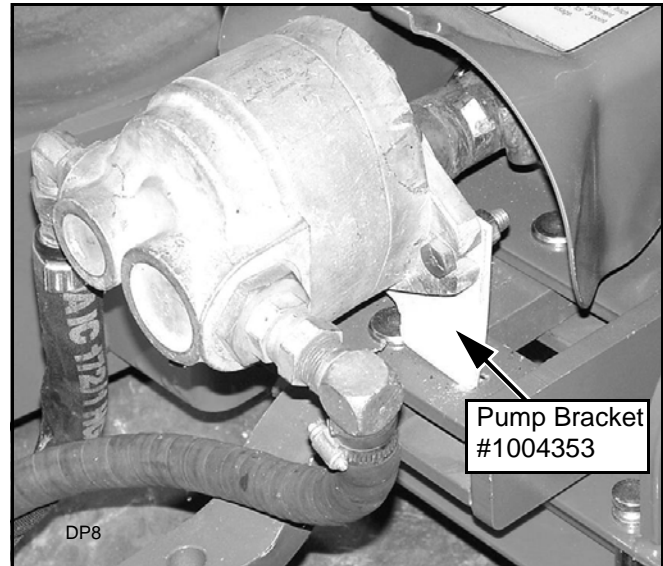

Figure 14 Pump Bracket Installed
1. Attach pump mounting bracket (6, supplied with sub-frame mounting kit #1004327) to pump assembly as shown in Figure 14.
2. Secure with two cap screws (A) and lock nuts (B) from pump kit #9261 as shown.